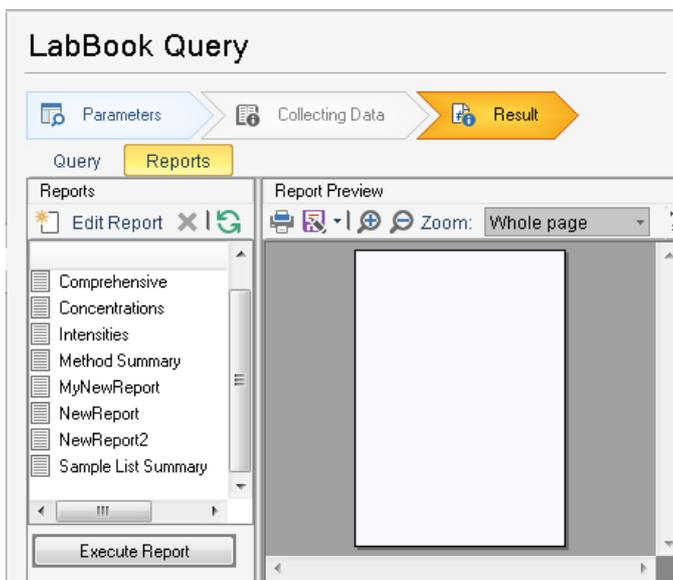

Figure 4-53. LabBook Query Reports page
2. In the LabBook Query Result view, select the **Reports** tab. The **Reports** page opens, see Figure 4-53.